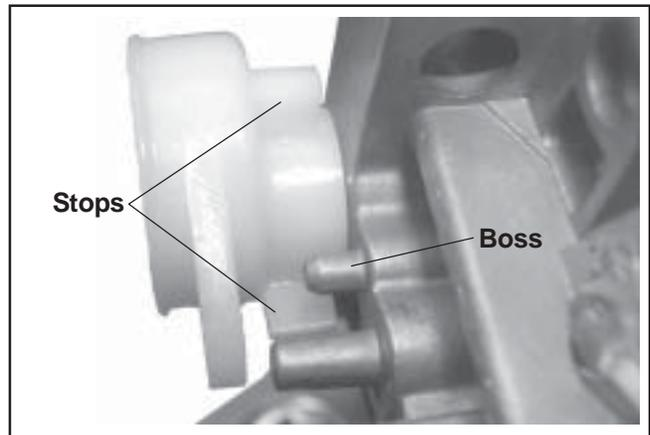

Figure 5-34. Assembling Choke Lever.
7. Insert the new bushing through the new choke lever from the outside, and start the bushing in the outer shaft bore. Position the choke lever so the protruding boss on the carburetor housing is between the two stops formed in the choke lever. See Figure 5-34.